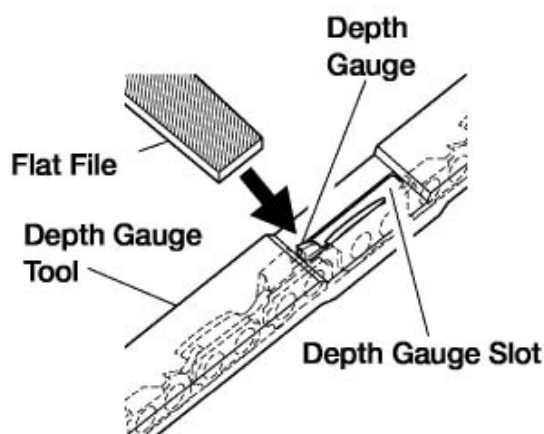

Figure.14
1. Place depth gauge tool (.025") firmly across top of two cutters. Make sure depth gauge enters slot in depth gauge tool (see **Figure 14**).